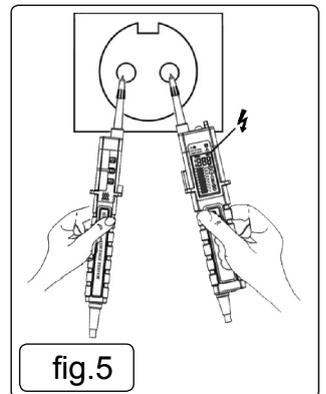

fig.5
- 5.3.6. LCD will display "⚠" when voltage source $\geq 100\text{VAC/VDC}$ (fig.5).